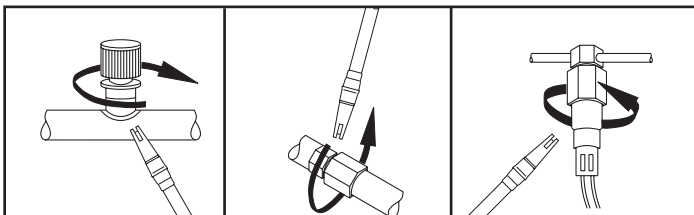

Fig. 6
5. At each area checked, move the probe around the location at a rate no more than 25 to 50 mm/second (1–2 inch/second), and no more than 5 mm (1/4 in.) from the surface, and completely around the position. Slower and closer movement of the probe greatly improves the likelihood of finding a leak (see Fig. 6). Any increase in the alarm rate is indicative of a leak.